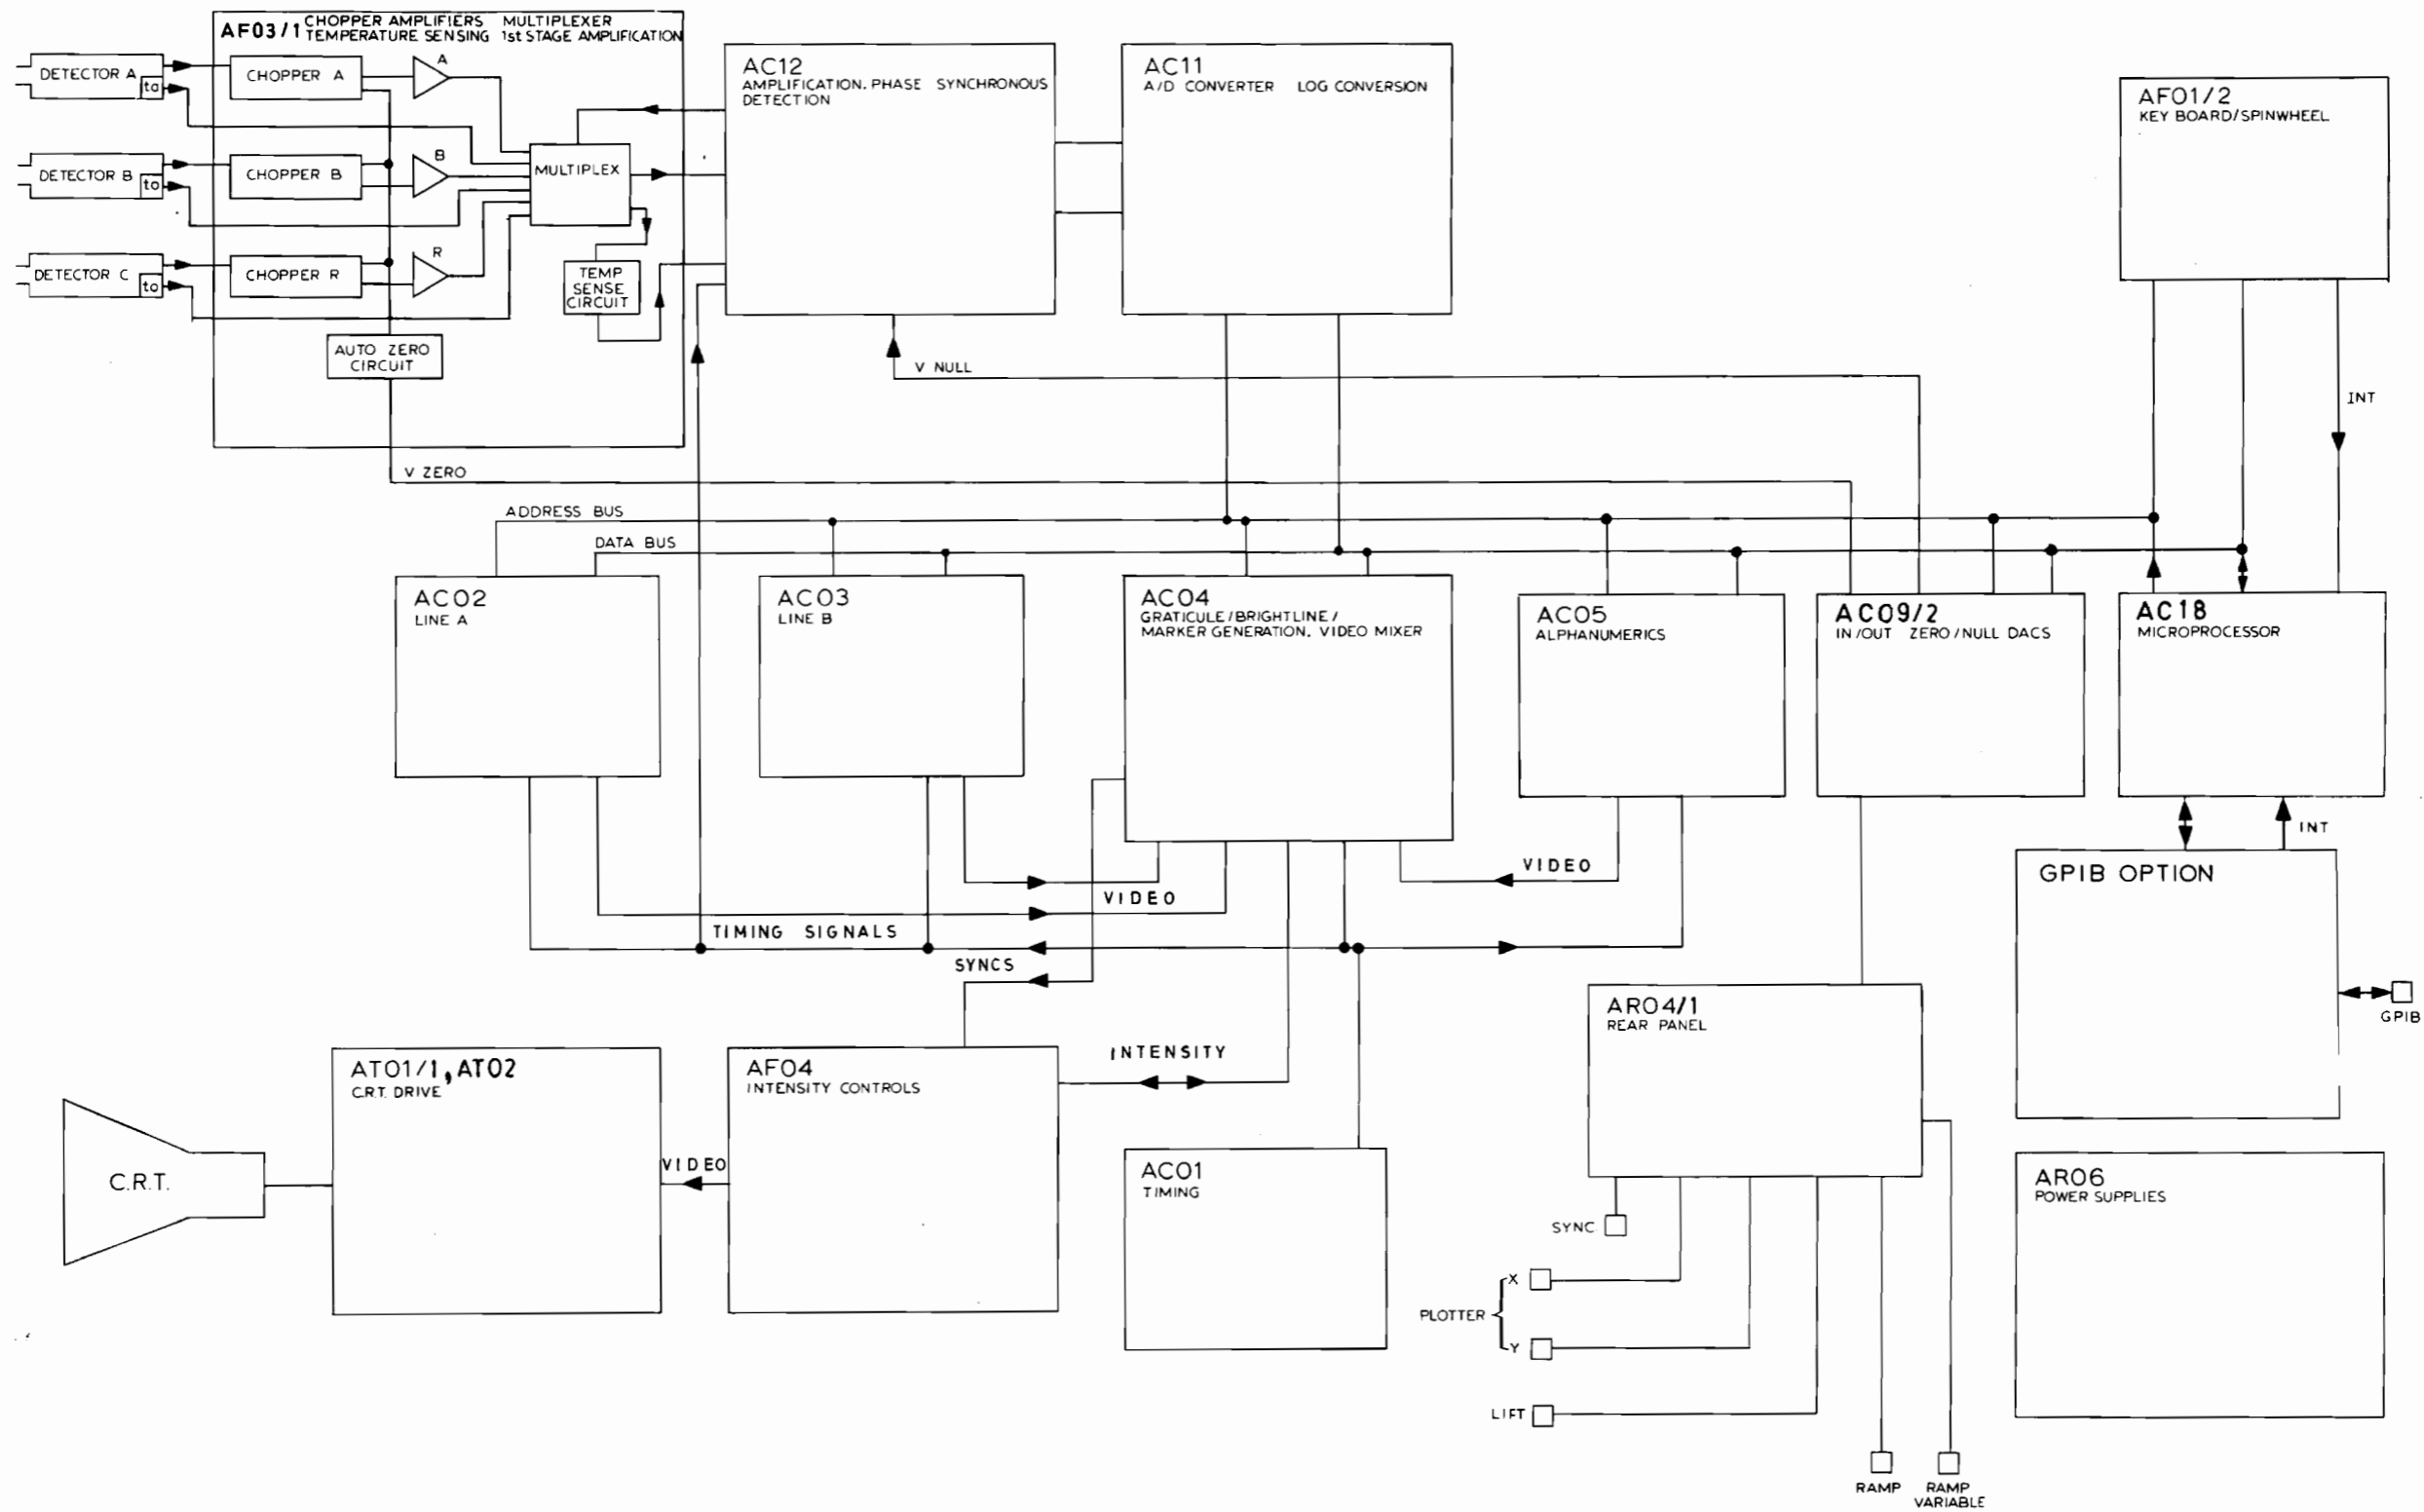

Fig. 1 6500 Amplitude Analyzer, simplified block diagram
15. The instrument is divided into five main areas see Fig. 1, these are as follows :-